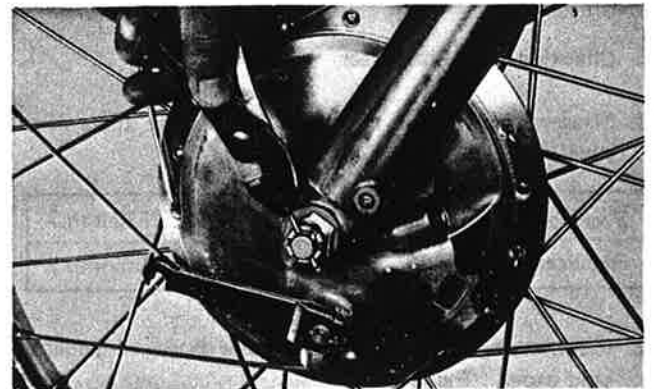

Fig. 5-1-4
4. Remove cotter pin from front axle. (Fig. 5-1-4)